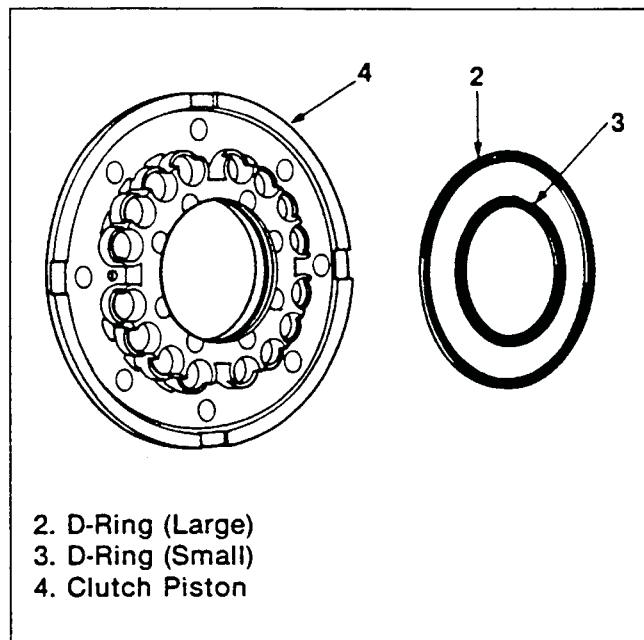

**Figure 135. Piston Check Ball Function Check**
- Blow air 294 – 392 kPa (42 – 56 psi) to the check ball from both the drive and release sides and check movement by finger (figure 135).